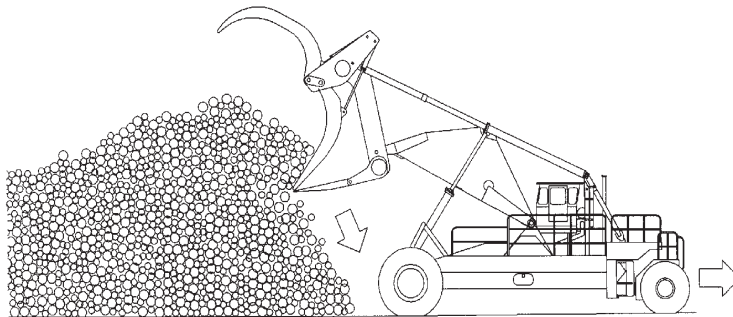

Figure 5-16
- When the required decking height is reached, push the load off with the kickoff arms and simultaneously lower the carriage and back away slowly. Keep the tines as close to the pile as possible to prevent logs from rolling down in front of the drive tires (See Figure 5-16).